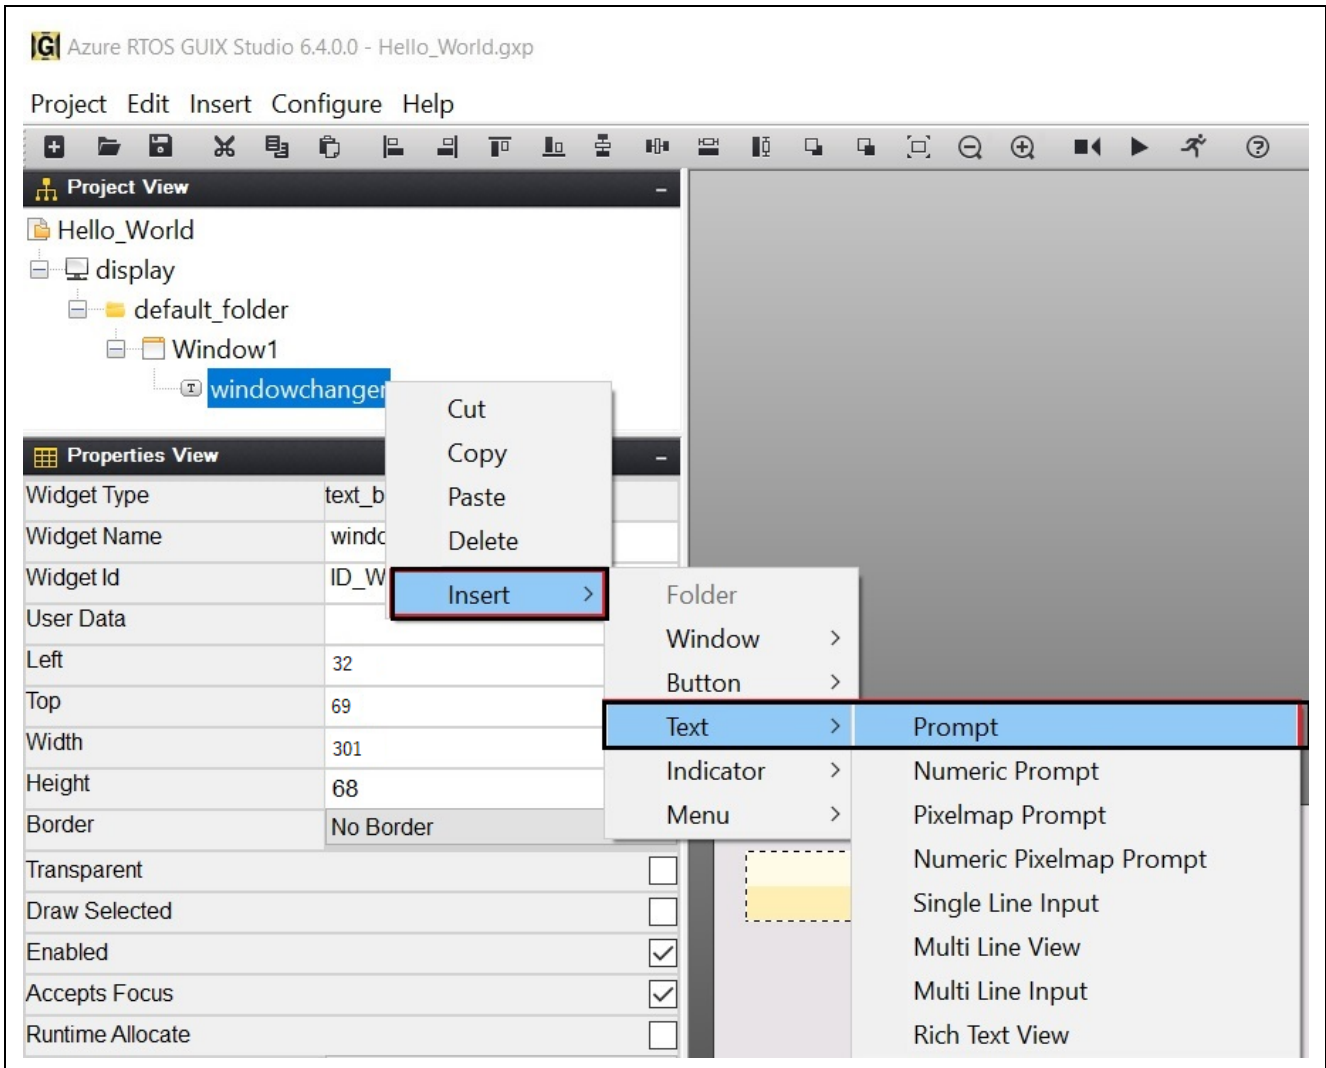

Figure 50. Insert Prompt
13. Right-click **windowchanger** to insert a **Prompt** and follow **Figure 50**.